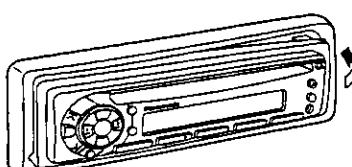

Fig. 5
- ② Press the right end of the removable face plate until "click" is heard. (→ Fig. 5)